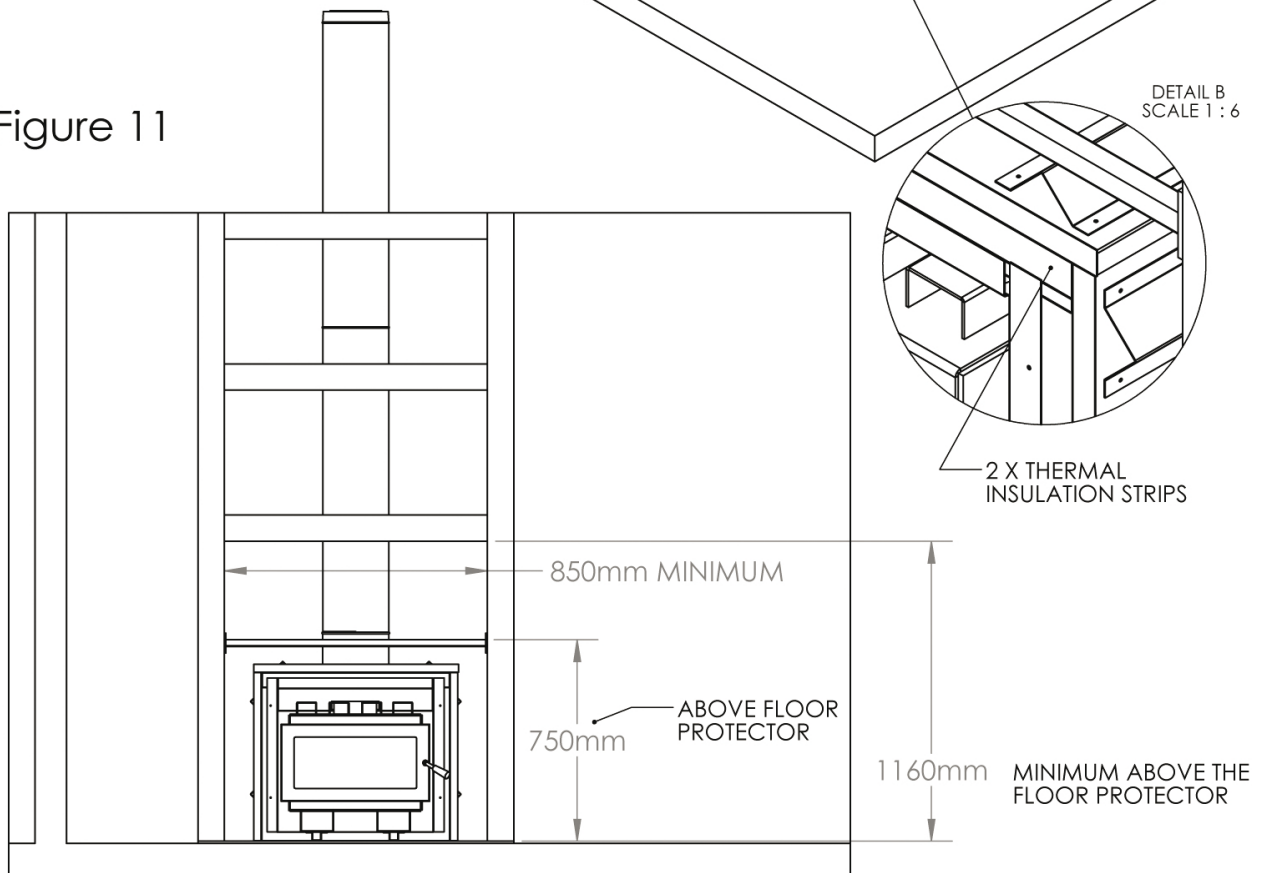

Figure 12
- 2 x layers of 9mm Promina, fig 12 (or thermal equivalent) insulation is required under the ZC Cabinet. The ZC Cabinet may not sit directly onto a timber or particle board floor, or combustible spacer. Please note: Raise the firebox to suit the required floor protector height (including decorative tiles etc).
- Use 2 layers (minimum) of 9mm Promina Board, fig 12 (or thermal equivalent), 800mm wide x 620mm deep under the ZC Cabinet.
- Drill the holes for the seismic restraint bracket (2) located at the front of the firebox, being careful not to alter the unit's location. Re-check all measurements and settings, then fit and tighten two 6mm x 50mm dyna bolts.